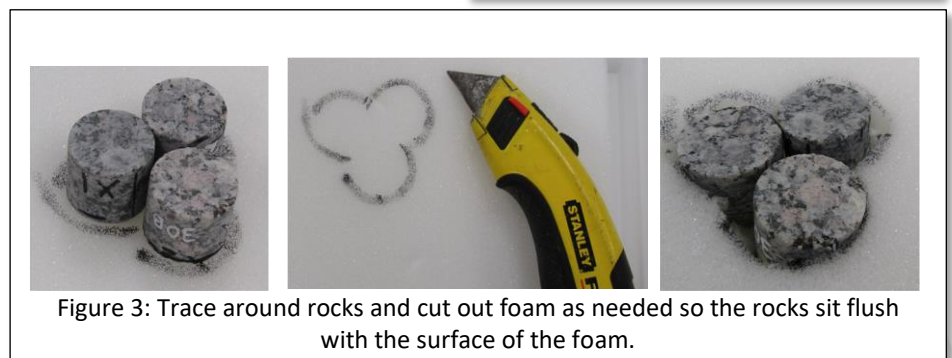

Figure 3: Trace around rocks and cut out foam as needed so the rocks sit flush with the surface of the foam.
3. Trace around rocks with a marking pen and remove foam as needed to allow rocks to lie flush with surface (Figure 3).